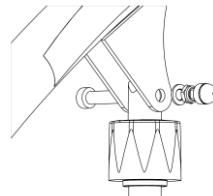

Fig. 1.6D
3. Assembly the actuators piston rod to the lifting arm. Use the Allen key and the spanner to tighten the bolt/nut. (Fig. 1.6D). Put the cap on the nut.